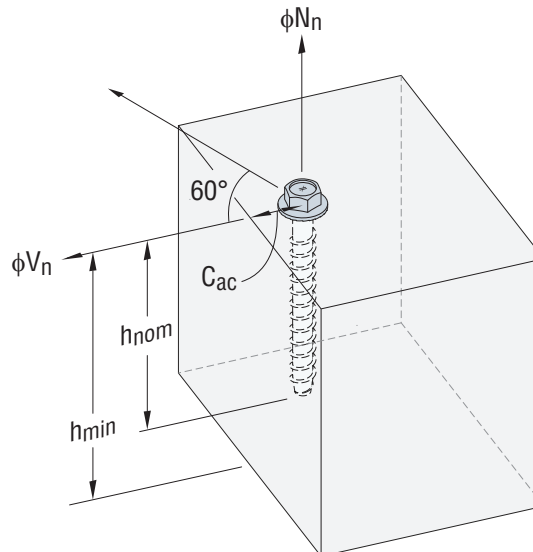

Figure 1
- Installation must comply with Figure 1 on page 17.
7. Tabulated values are based on an anchor placed at critical edge distance from one concrete edge. See Figure 1 below.